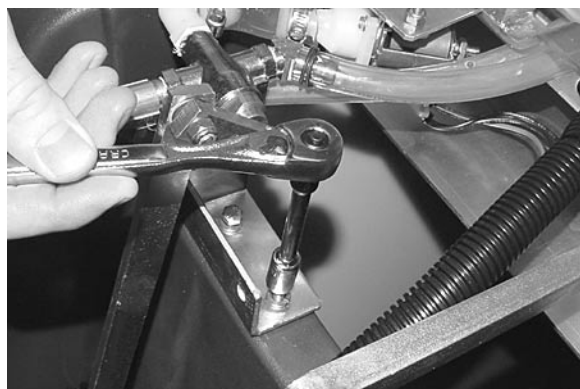

Fig. 4
4. Remove the old valve mounting bracket from the machine and dispose, 10mm wrench required (Figure 4).